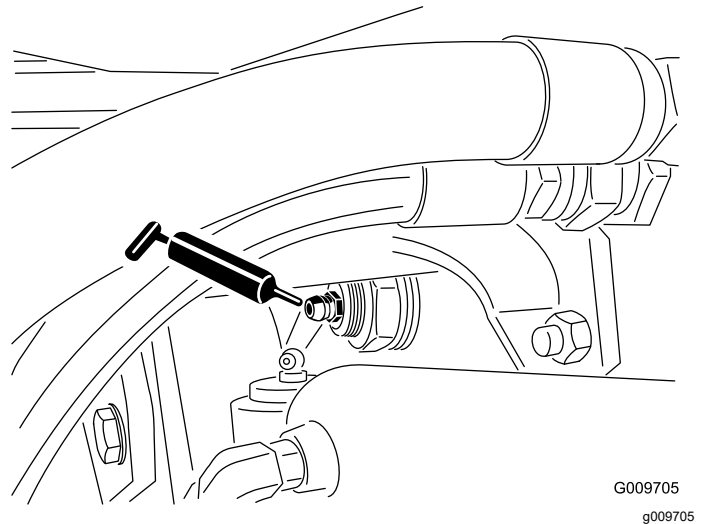

Figure 45
- Rear-axle-pivot bushings (2) as shown in Figure 45